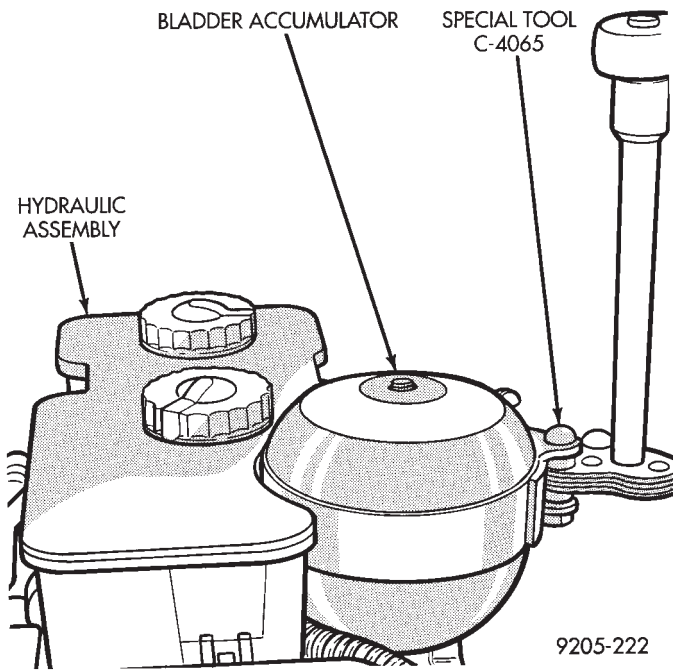
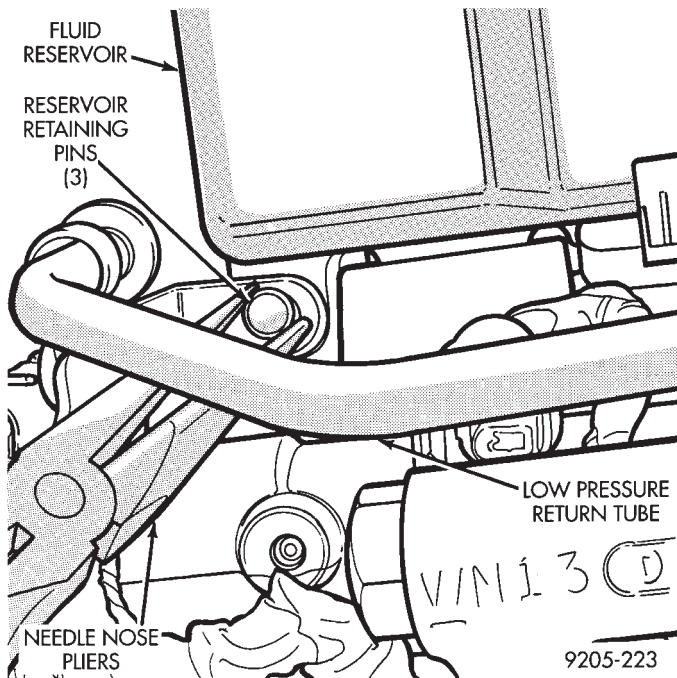

Fig. 10 Removing Bladder Accumulator
Fig. 11 Remove Reservoir Retaining Pins
(1) De-pressurize the hydraulic accumulator by pumping the brake pedal a minimum of 40 times.
(2) Remove as much brake fluid as possible from the fluid reservoir, using a syringe or equivalent method.
(3) Using Oil Filter Band Wrench, Special Tool C-4065 or equivalent loosen bladder accumulator. Then remove the bladder accumulator and brake fluid spray shield from the hydraulic assembly (Fig. 10). Remove high pressure banjo fitting from hydraulic assembly.
(4) Using needle nose pliers, remove the three fluid reservoir retaining pins from the hydraulic assembly (Fig. 11). Compress the barb on the opposite side of retaining pin to prevent pin from breaking.
(4) Using needle nose pliers, install the 3 brake fluid reservoir to hydraulic assembly retaining pins (Fig. 11). Make sure that pins are fully installed with barbs extending past reservoir on opposite side.
(5) Reinstall the high pressure hose, banjo fitting onto the hydraulic assembly and torque the fitting to 13 N•m (10.0 ft.lbs).
(6) Install the brake fluid spray shield and bladder accumulator onto the hydraulic assembly. Install the bladder accumulator by hand to be sure it does not bet cross threaded. **Be sure that the O-Ring on the bladder accumulator is fully seated into the hydraulic assembly.**
(7) Using Oil Filter Band Wrench, Special Tool C-4065 or equivalent, (Fig. 10) torque the bladder accumulator to 48 N•m (35 ft. lbs.)